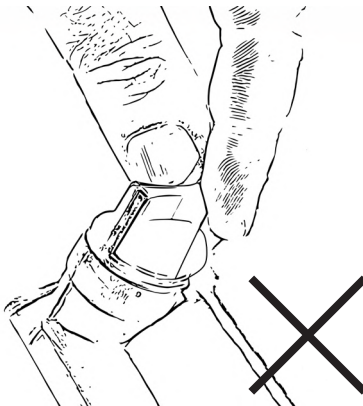

Figure 5
Never turn the oil filler plug with connected dipstick into the thread when reading the oil level. This leads to an incorrect measurement result, Fig. 5.
- Immerse the dipstick completely in the oil. **Never** turn the dipstick into the thread, Fig. 5.